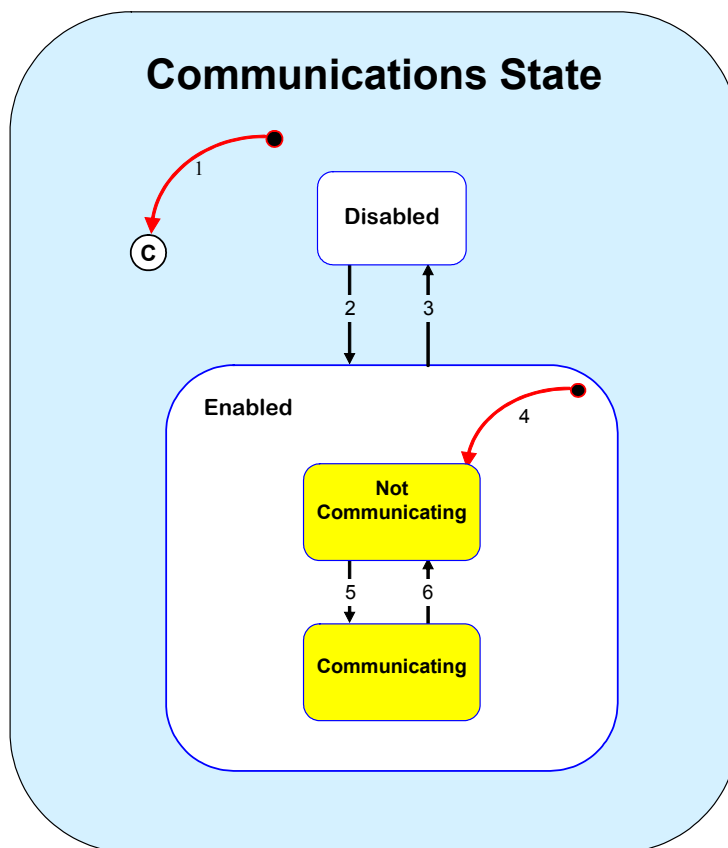

Figure 3-1 Communication Finite State Diagram
Figure 3-1 illustrates the Communications Finite State Machine that the Equipment maintains.
**NOTE** Refer to Table 3-1 for definition of numbers used in Figure 3-1.
The following table describes the transitions that can occur. Transitions shown in Figure 3-1 do not cause the Equipment to signal any Collection Event ID (CEID) or to send Event Reports to the Host.
The numbers in the # column refers to those in Figure 3-1.